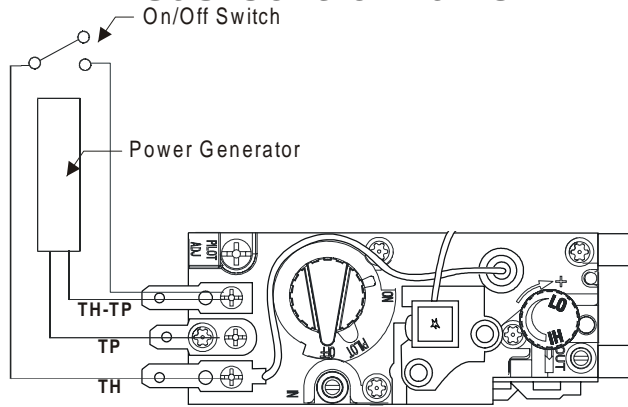

Figure 27. Honeywell gas valve.
- Have the fireplace installation inspected yearly, including a visual check of the vent system, the burner and the pilot flame. For your convenience a 1/8" manifold pressure tap is supplied on the gas valve for a test gauge connection. See Figure 27.
1. Locate Pilot Adjustment Screw. (See figure 27.)
Pilot won't ignite	Disconnect remote wires and try to light pilot. If pilot now works, remote connections are faulty. Check wiring diagram figure 27.
Main burner will not light	1. Check wiring (see figure 27). 2. Check wall switch for proper connection.